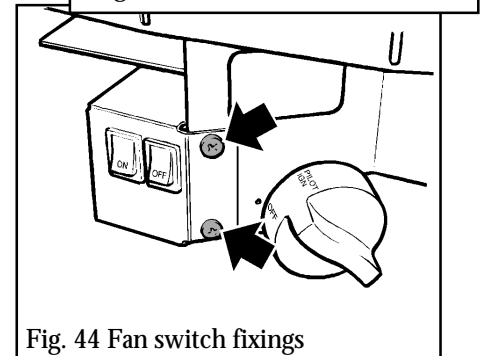

Fig. 44 Fan switch fixings
- To gain access to the pilot pipe connection, detach the fan switch bracket from the burner control bracket by removing two screws (see figure 44).
- Detach the fan switch bracket from the burner control bracket by removing two screws (see figure 44). Carefully pull clear of the burner unit.